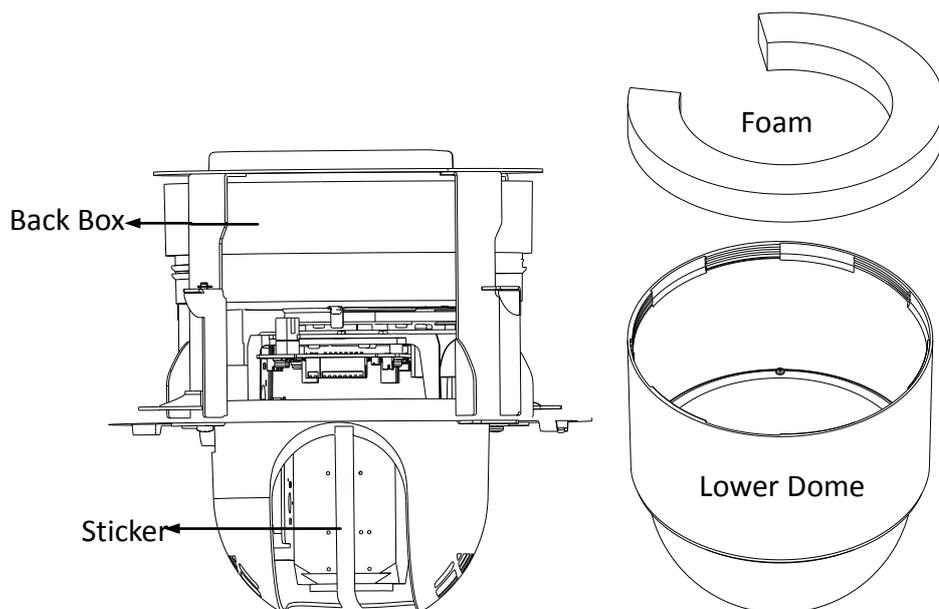

Figure 3-17 Remove the Protective Accessory
1. Rotate the lower dome counterclockwise to separate it from the back box as shown in Figure 3-17.
1. Rotate the lower dome counterclockwise to separate it from the back box. Refer to the Figure 3-17.